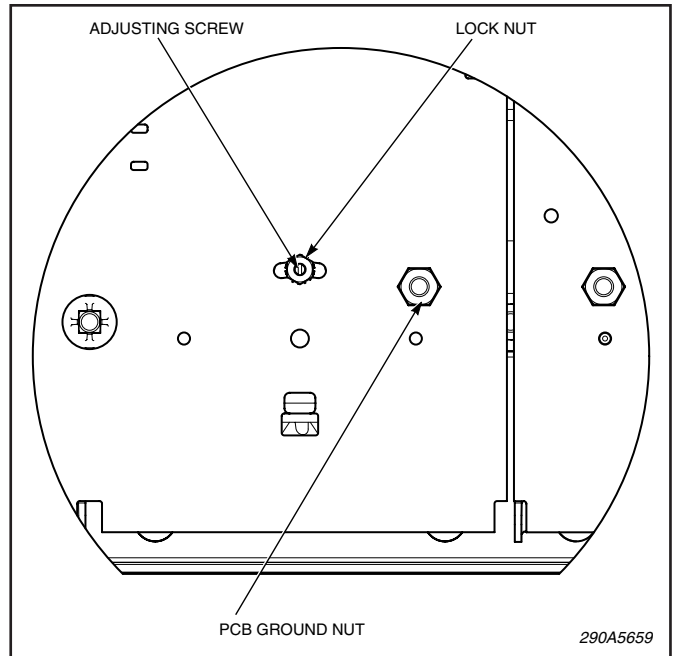

Figure 4.
C. *Halogen Lamp Adjustment (see figure 4).*
a. Takedown lamps: See figures 4 and 5. Remove top per paragraph V.B. Remove PCB ground nut, then invert PCB to access lamp. See the replacement parts list and replace the defective lamp with an exact replacement only. Assemble in reverse order. Do not overtighten nuts.
b. Alley lamps: See figures 4 and 6. Remove top per paragraph V.B. Remove PCB ground nut, then invert PCB to access lamp. With a 1/16" hex key, remove the lamp retaining screws and clamps. Slide lamp and socket from housing just far enough to grasp socket (it may be necessary to unplug connector to gain adequate slack in leads). Holding socket firmly, unplug lamp. See the replacement parts and replace the defective lamp with an exact replacement only. Assemble in reverse order. Do not overtighten screws and nuts.
G. PCB Replacement (see figures 4 and 7).